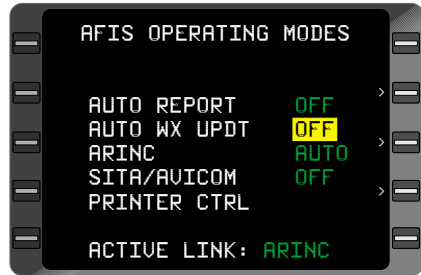

Figure 7-117
4. Line Select Key - DEPRESS to position cursor over **OFF** option of **AUTO WX UPDT** field. (Figure 7-117)